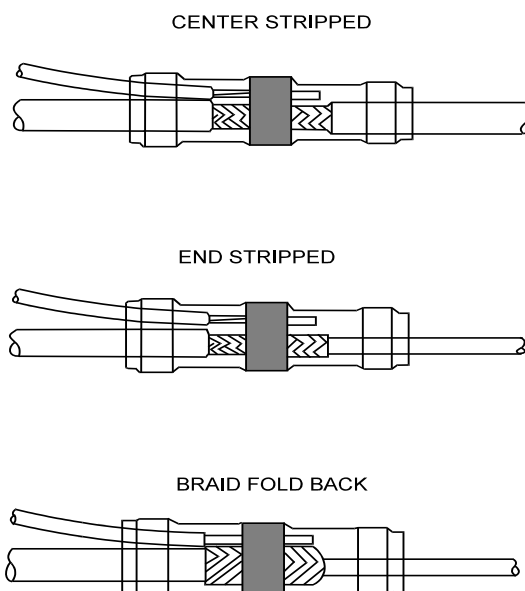

Figure 3-31 Examples of Solder Sleeve Assemblies
- b. Assemble the cable, ground lead, and solder sleeve ensuring no strands protrude to puncture the sleeve, as illustrated in Figure 3-31. Note, the ground lead can enter the sleeve from either side.